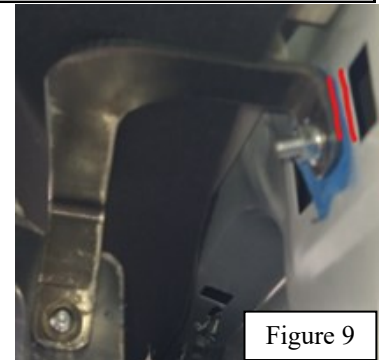

Figure 9
7. Using M6 flange nuts install the driver and passenger top straps (29, 30) (Bigger strap is passenger) to the pillars. Strap flange must be parallel to the square holes (see image below, red markings). Do not install the frame yet. Tighten nuts and proceed to step 5 on install sheets. Note: Might need to do small trim the pillar molding to clear the strap. **Figure 9**.